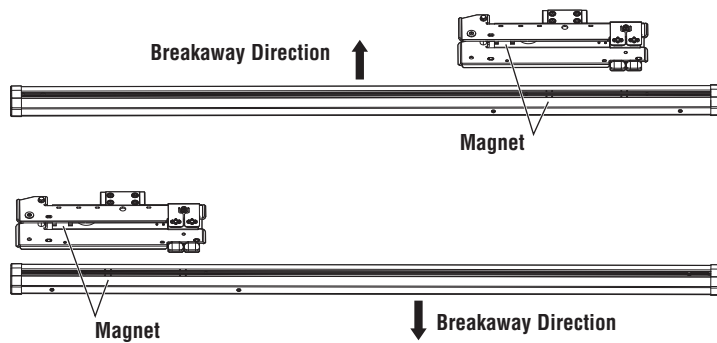
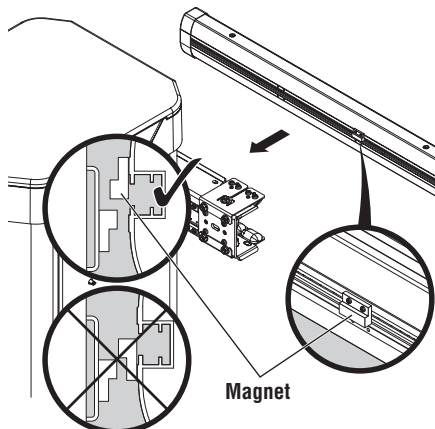

Figure 1
Figure 2
4. Note the orientation of the magnetic sensor within the arm bracket. Place the magnet in the proper orientation on the arm to result in the following relative location with respect to the magnetic sensor. See Figure 1 and Figure 2.